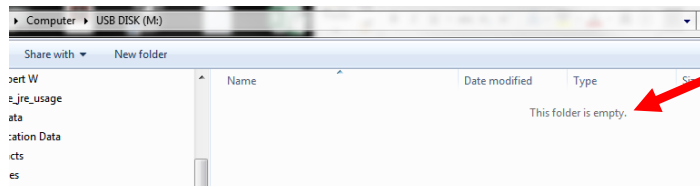

Figure 7
8. Double click on the USB drive to view the blank directory (see Figure 7).